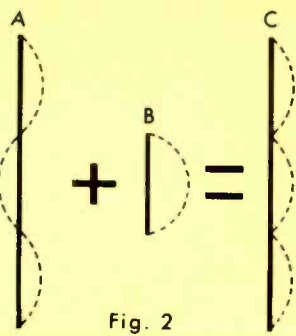

Fig. 2
Figure 2. High band operation of Channel Master's "dual-element" dipole system. Out-of-phase current flow on driven element (A) is counteracted by large in-phase current flow of high band parasitic (B), and produces in-phase harmonic operation (C).
high that they have no effect on the signal and behave almost as if they were not physically present. Therefore, the individual dipoles can be cut to size for optimum low band operation. Figure 2 illustrates how this dipole system enhances harmonic mode operation on the high band. Figure 2A shows out-of-phase high band current distribution on a low band dipole. Figure 2B shows the strong forward current flow of the high band parasitic element. Figure 2C shows the combined effect of both these elements where there is now an in-phase current flow on each section of the driven dipole.